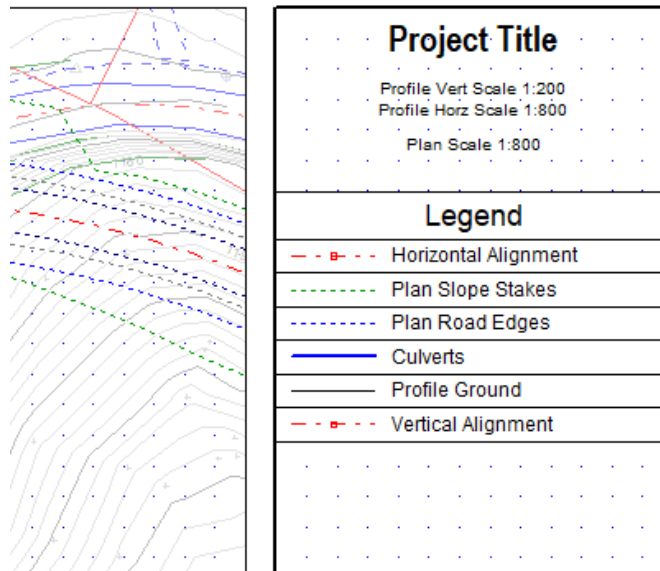

Figure 24-19: Legend Added to Layout
15. Finally move and size your legend so it fits nicely on the right side of the Plan and Profile graphics. See Figure 24-19.